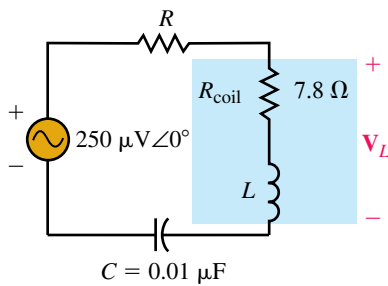

FIGURE 21-53
8. Consider the circuit of Figure 21-53: